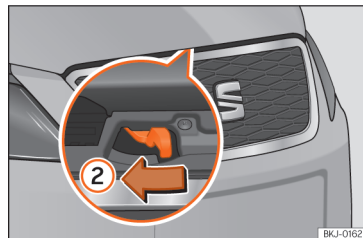

Fig. 280 Lever under the bonnet.
- To lift the bonnet, press towards the left on the lever located under the bonnet, in the centre »» Fig. 280 (2). The arrester hooks are released.